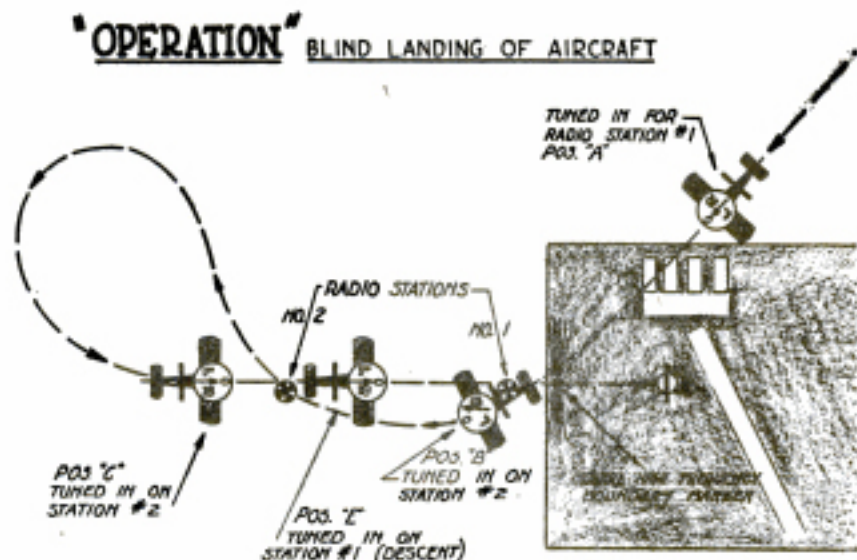

Fig. 1. Radio tuning positions for making blind landings shown in the horizontal plane, looking down upon the field.
When the loudness of this range signal and the clock also, tell him that he is within several miles of the landing area, he turns the receiver to the wavelength of the nearest portable radio landing station and watches his radio compass carefully. When he is headed for the station the needle on this instrument points to zero. (see Fig. 1).
He is now at position (A), losing altitude rapidly until he is within 200 feet of the ground. He passes over station No. 1, or position B, Fig. 1, and his radio compass needle jerks to one side. He then tunes in on station No. 2, by a mere flip of a switch and flies toward that station, crosses it and makes an easy 180 degree turn to head his airplane back to the field along the desired direction, into the wind.
He is now coming in to land, his artificial horizon guiding his hand at the stick to maintain the airplane level and the gyro and radio compasses telling him when he is "headed for home." (Position C, Figs. 1 and 2.)
radio compass twitches and he quickly switches it on to the wavelength of station No. 1. He should now be about 500 feet above the ground, according to his sensitive altimeter and he retards or advances the throttle until his tachometer reads 1300 r.p.m. He is descending now, (Position E, Figs. 1 and 2) and the needle of the altimeter is slowly working toward zero, with the radio compass needle reading zero if the pilot is properly heading into the wind, toward station No. 1. Again the needle twitches and his altimeter shows him 150 feet off the ground.